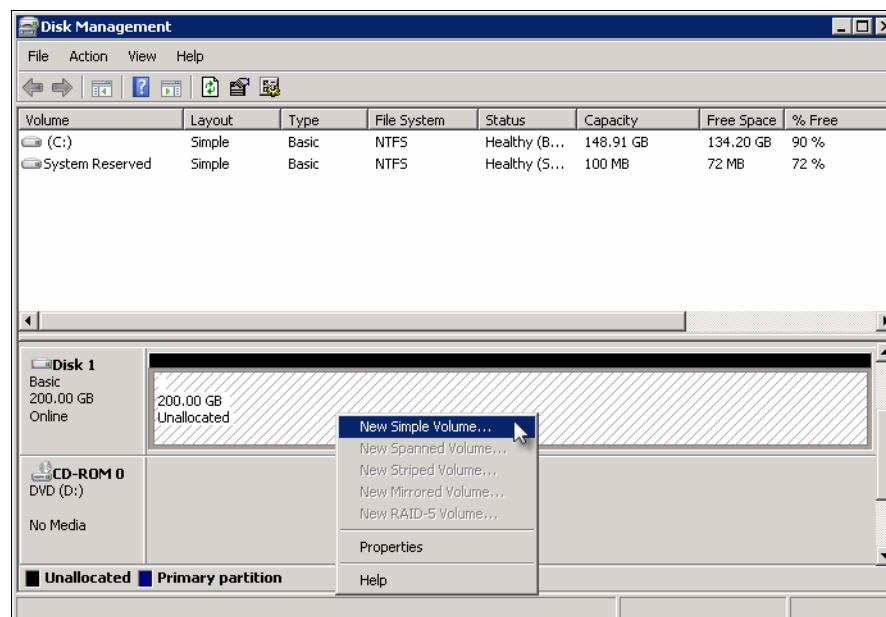

Figure 5-37 New Simple Volume
8. Right-click the right side pane and click **New Simple Volume**, as shown in Figure 5-37.